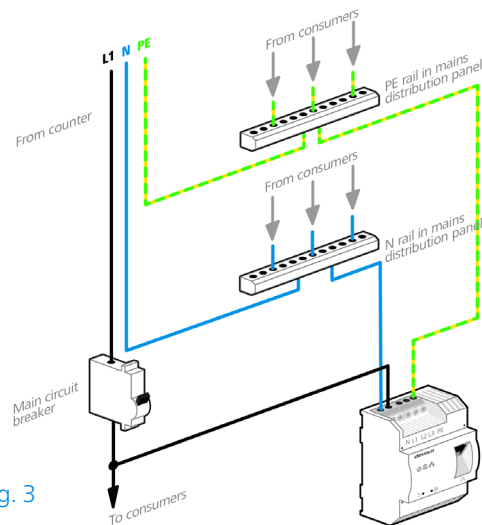

Fig. 3
- **Single-phase connection:** Neutral conductors and external conductors are connected to terminals **N** and **L1** (see Fig. 3).